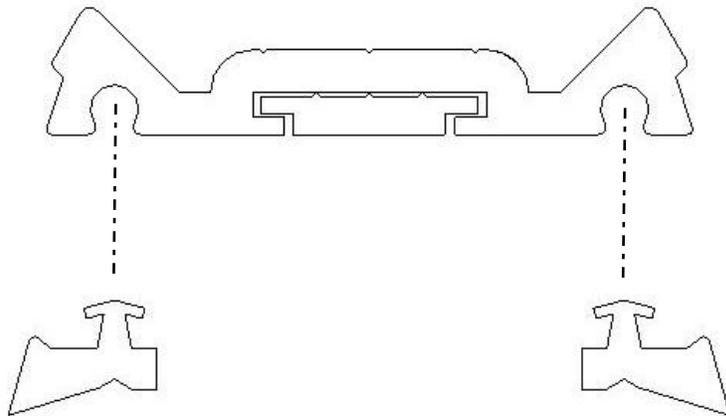

Figure 21: Press glazing gaskets into the reglets of the vertical pressure plate.
- Press glazing gaskets (PTB28) into the reglets of the vertical pressure plate, as shown in Figure 21.